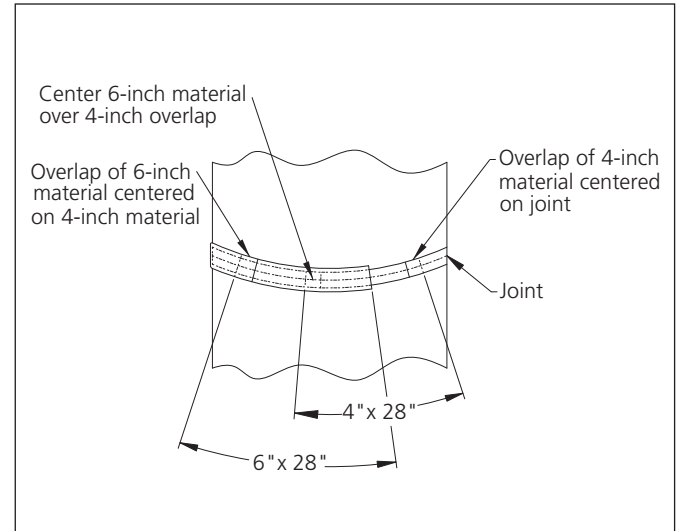

FIGURE 5-1
- 5.3. Pick up the laminate and center it on the riser seam. (See FIGURE 5-1 for proper placement of laminate.)